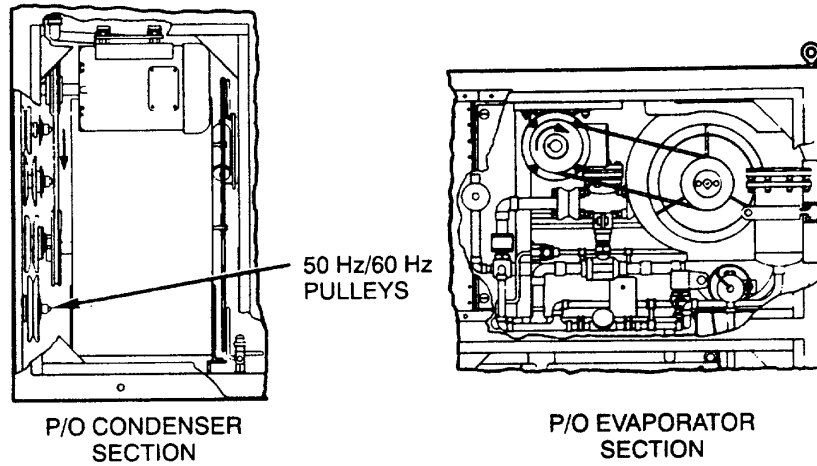

Figure 4-17. Condenser and Evaporator Fan Rotation
- k. Condenser and Evaporator Fan Rotation (see Figure 4-17).
- (1) Momentarily turn MODE SELECT SWITCH to COOL then back to OFF.
- (2) Verify fan rotation is clockwise viewed from front of left condenser section.
- (3) If fan rotation is backward unit power is not wired properly. Disconnect power at source and exchange wires connected to RFI box terminals A and B. (see step h above)